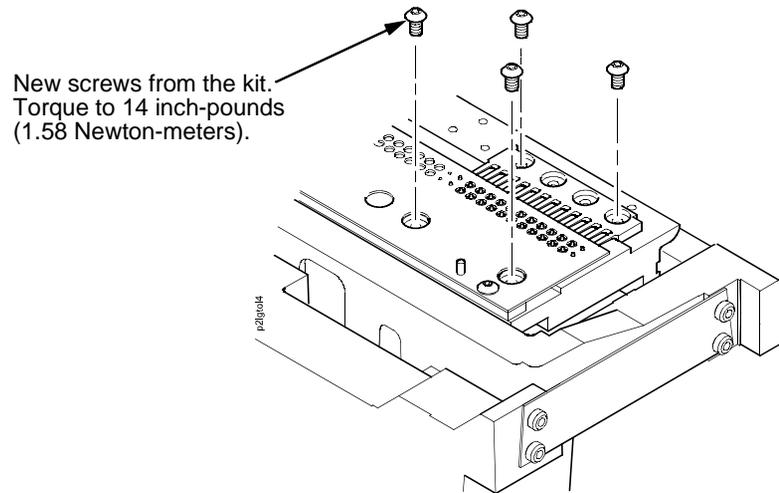

Figure 25. This figure shows how to install the Torx T-10 screws in more than one hammer spring assembly on a dual hammer bank.
- Continue to apply a slight downward pressure on the tool and install the outer two mounting screws in the hammer spring assembly nearest you. Now install the outer mounting screws in the other hammer spring assembly. Torque each screw to 14 in-lbs (1.58 N•m). (See Figure 25 and use the 1-30 inch-pound Torque Screwdriver, IBM part number 16F1661.)